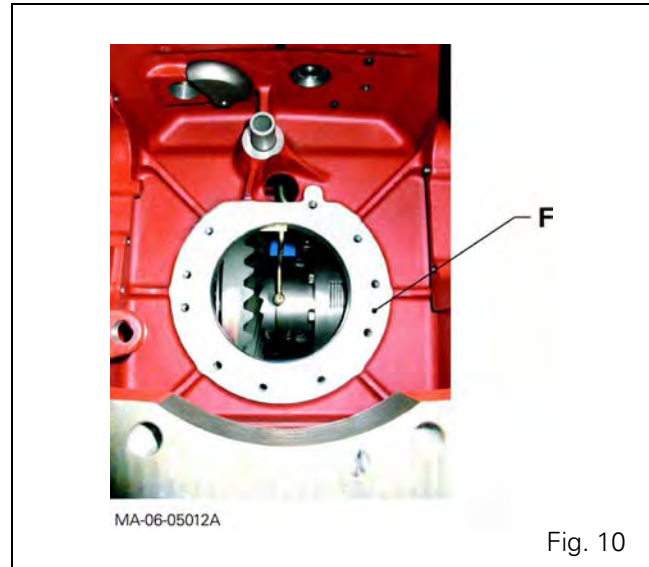
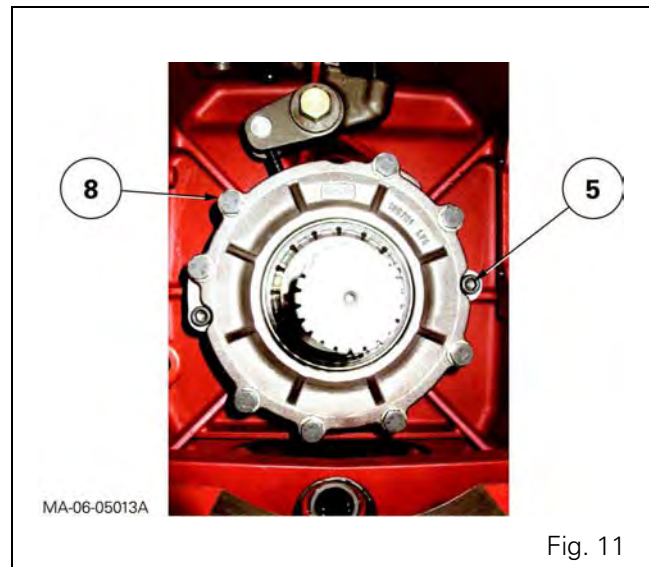

Fig. 10
Fig. 11
34. Position the shim(s) (12) on the fitting area of the hand brake unit (15).
35. Using tool ref. 3378465M1 (see § D), refit the pinion/hand brake unit assembly against face F of the centre housing compartment (Fig. 10). During the refitting process, refit the hand brake actuator lever at the same time (see Fig. 4 and chapter 6).
38. Clean the thread of the screws (5) (8) and lightly smear with Loctite 242 or equivalent.
39. Screw in the Allen screws (5).
40. Screw in the hexagonal head screws (8) fitted with their washers (11) while removing the guide stud at the same time.
41. Tighten the diametrically opposed screws (5) (8) (Fig. 11) uniformly and step-by-step to a tightening torque of 100-130 Nm.